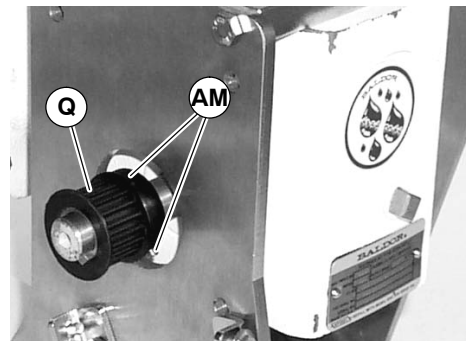

Figure 36
NOTE: Figures 36 through 38 shown gear reducer replacement procedure for a timing belt drive. Timing chain drive is similar except as noted.
- For a Timing Belt** – Loosen two drive pulley set screws (AM of Figure 36) and remove drive pulley (Q).
- Attach new gear reducer to bottom mount with four screws (AS).
- For a Timing Belt** – Install drive pulley (Q of Figure 36) and tighten two set screws (AM).